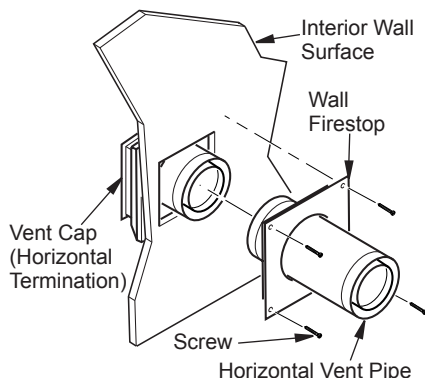

Figure 13 - Connecting Vent Cap with Horizontal Vent Pipe
6. **Connecting Vent Cap with Horizontal Vent Pipe:** Slide wall firestop over vent pipe before connecting horizontal run to vent cap (see Figure 13).